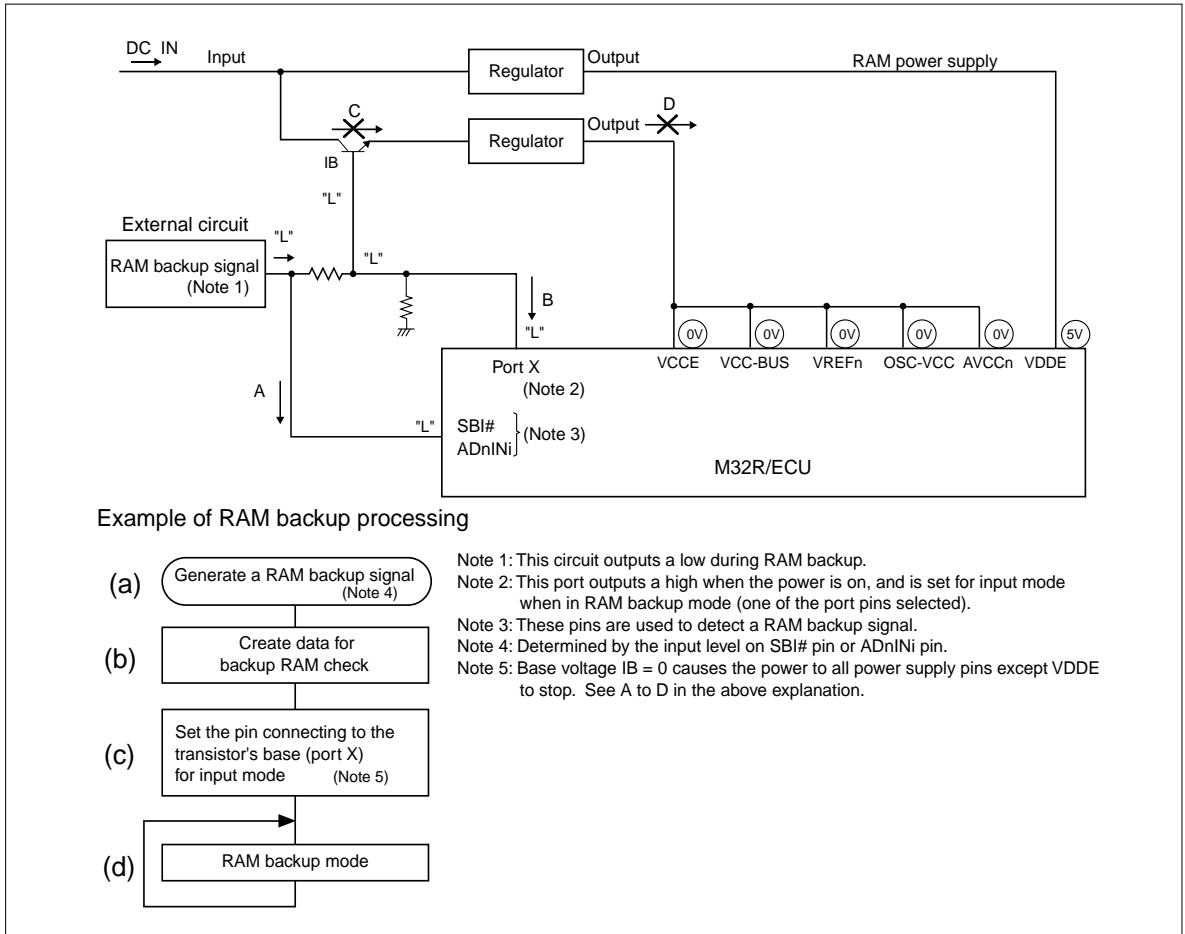
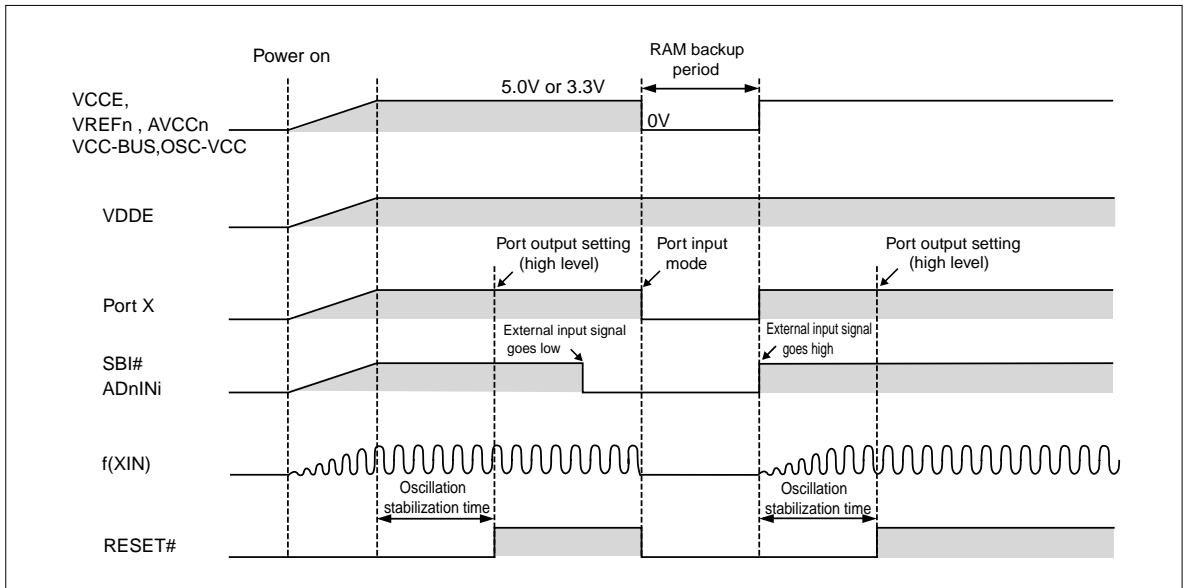

Figure 17.3.3 RAM Backup State for Low Power Operation
Figure 17.3.4 Example of a RAM Backup Sequence for Low Power Operation
Figure 17.3.3 shows the RAM backup state of the M32R/ECU. Figure 17.3.4 shows a RAM backup sequence. When the external circuit outputs a low, input on the SBI# or ADnINi pin is pulled low. A low on these input pins generates a RAM backup signal (A and (a) in Figure 17.3.3). To enable RAM backup mode, make the following settings:
- (1) Create data for RAM check to verify after returning from RAM backup mode to normal mode whether the RAM data has been retained normally ((b) in Figure 17.3.3).
- (2) To materialize low-power operation, set all programmable input/output pins except port X for input mode (or for output mode, with the output level fixed low) ((c) in Figure 17.3.3).
- (3) Set port X for input mode (B and (d) in Figure 17.3.3). This causes the transistor's base voltage, IB, to go low, so that the power to all power supply pins except VDDE is shut off (C and D in Figure 17.3.3).
Due to settings in (1) to (3), the VDDE pin voltage goes to 3.0–5.5 V and all other pin voltages drop to 0 V, and the M32R/ECU is thereby placed in RAM backup mode ((d) in Figure 17.3.3).